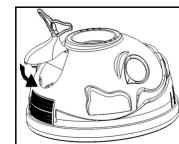

Figure 3
1. **Tail Installation** - Insert the tab at the top of the tail into its corresponding hole on the cleaner body. Then swing the bottom of the tail down. Align the two (2) tabs with the corresponding holes. Apply forward pressure until the tail snaps firmly in place. (See Fig. 3)